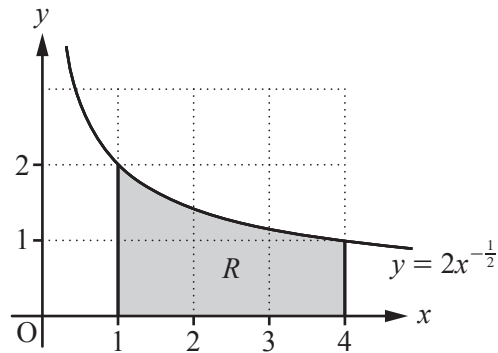

Fig. 4.1
- 4 Fig. 4.1 shows the shaded region R bounded by the curve $y = 2x^{-\frac{1}{2}}$ for $1 \leq x \leq 4$, the x -axis and the lines $x = 1$ and $x = 4$.